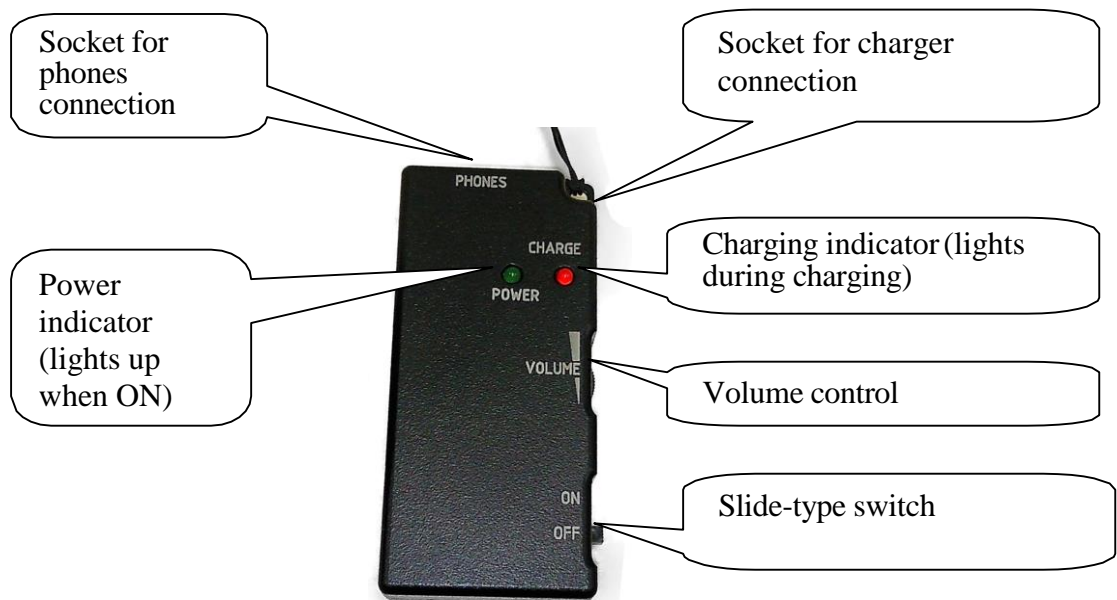

Fig. 4 Receiver
4.6. Control elements of the receiver are shown in Fig. 4.